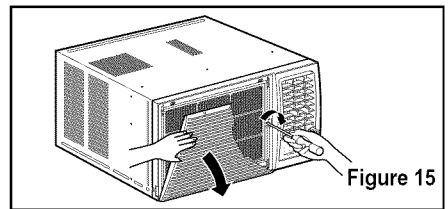

Figure 15
3. Lift the inlet grille and secure it with a type A screw through the front grille. (See Figure 15)